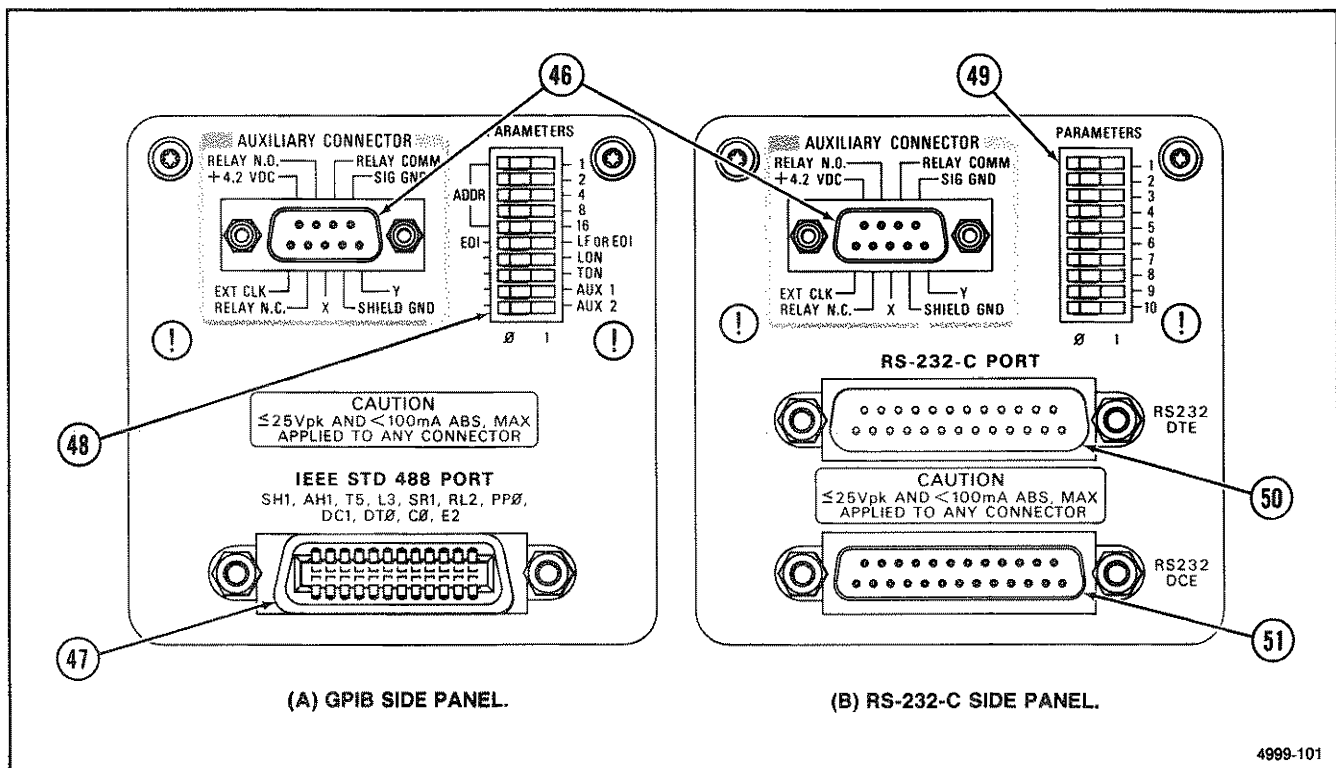

Figure 7-1. Option side panels.
The instrument is supplied with one of three possible side panels. The standard side panel (Figure 3-8) includes one AUXILIARY connector. The Option 10 side panel (Figure 7-1A) includes one AUXILIARY connector, one GPIB (IEEE 488-1978) interface port, and one PARAMETERS switch. The side panel for Option 12 instruments (Figure 7-1B) includes one AUXILIARY connector, one RS-232-C interface port (includes one DTE and one DCE connector), and one PARAMETERS switch. The Controls, Connectors, and Indicators part of this manual contains information on the use of the AUXILIARY Connector. Refer to Figure 7-1 for location of items 46 through 51.